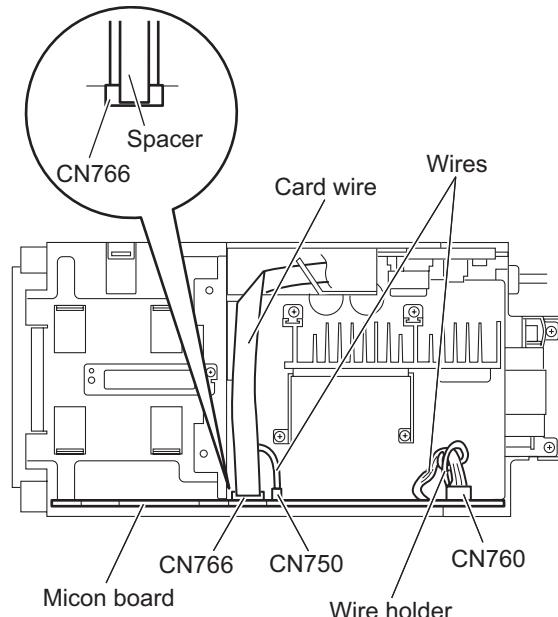

Fig.9
(See Figs.9 and 10)
- (1) From the top side of the main body, disconnect the card wire from the connector CN766 on the micon board. (See Fig.9.)
- (2) From the forward side of the micon board, disconnect the wire from the connectors (CN750, CN760) on the micon board. (See Fig.9.)
When reassembling, fix the wire with the wire holder after connecting the wire to the connector CN760 on the micon board as before. (See Fig.9.)